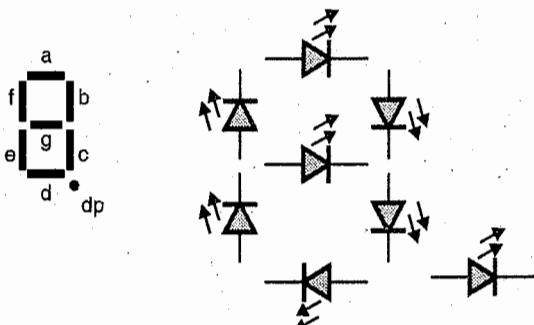

Fig. 2.5.1 : Structure of Seven Segment Display (SSD)
- As shown in the Fig. 2.5.1 the seven segment display uses seven LEDs to make any digit. If all the LEDs are on, it shows the digit 8. There are two types SSDs available.